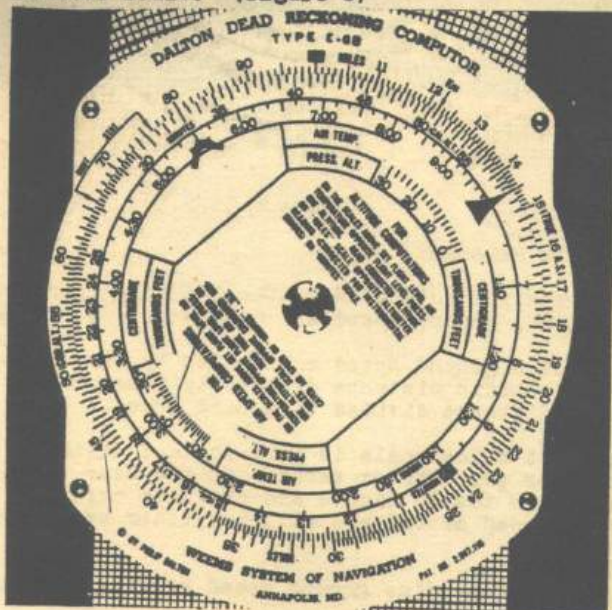

Figure 5
- Opposite 80 on the miles scale read the time, 33 minutes, on the minutes scale. (figure 5)